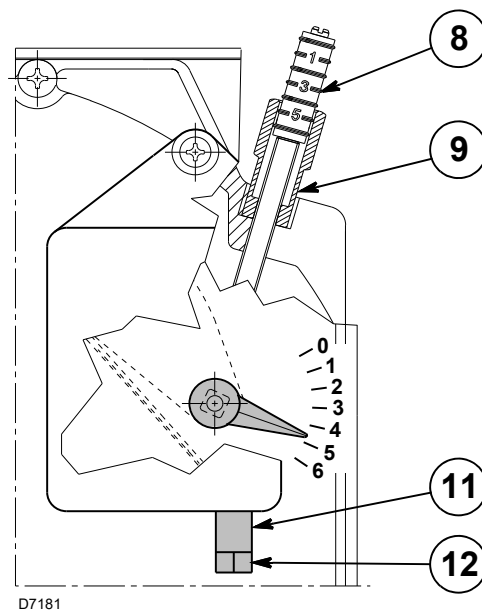

Fig. 15
The first start up should always be carried out using the screw 12)(Fig. 15), so that the 1st stage air damper position indicator is greater than notch 1, (factory setting notch 1).
- Loosen the nut 9) and use the screw 8)(Fig. 15) to adjust the 2nd stage air flow (see CO₂ values in the Tab. T).
- Adjust the 1st stage using the screw 12) after loosening (*clockwise*) the nut 11)(Fig. 15) referring to the table below for the CO₂ values.
- Once the ideal setting has been reached, block (*anti-clockwise*) the nut 11)(Fig. 15). When the burner stops, the air damper, due to the pressure of its weight, automatically closes, up to a max. flue depression of 0.5 mbar.